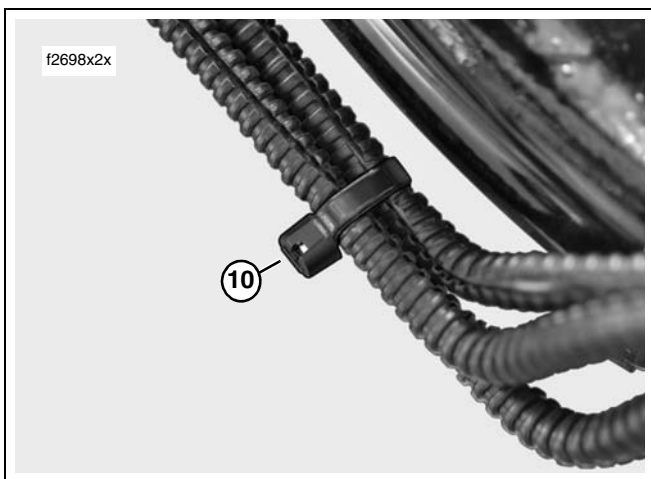

Figure 8. Install Cable Strap Above Brake Line Bend
11. See item 10 of Figure 8. At bottom of rear frame downtube, install **new** cable strap capturing three brake lines just above the bend.
15. See item 10 of Figure 8. At bottom of rear frame downtube, install **new** cable strap capturing three brake lines just above the bend.